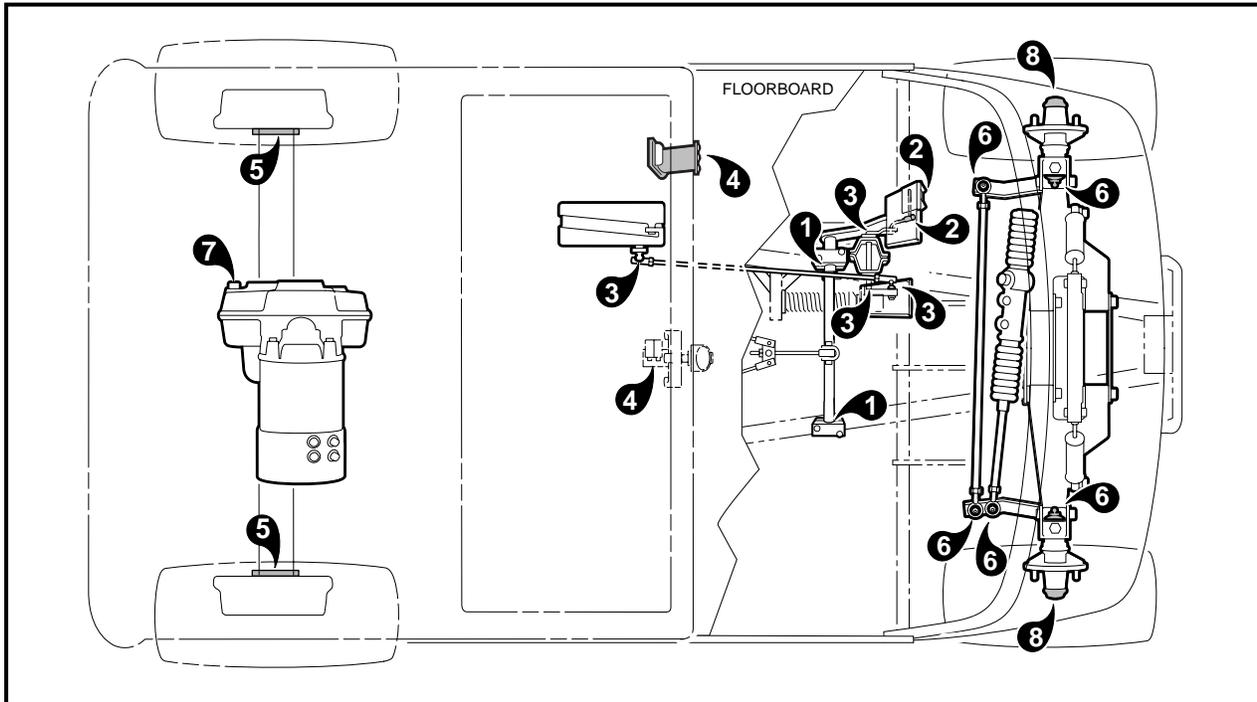

Figure 10-2 V-Glide 36-Volt Vehicle Lubrication Points
- TO AVOID UNINTENTIONALLY STARTING THE VEHICLE, DISCONNECT BATTERIES AS SHOWN IN **FIGURE 10-2, PAGE 10-3**.
*See Figure 10-2.